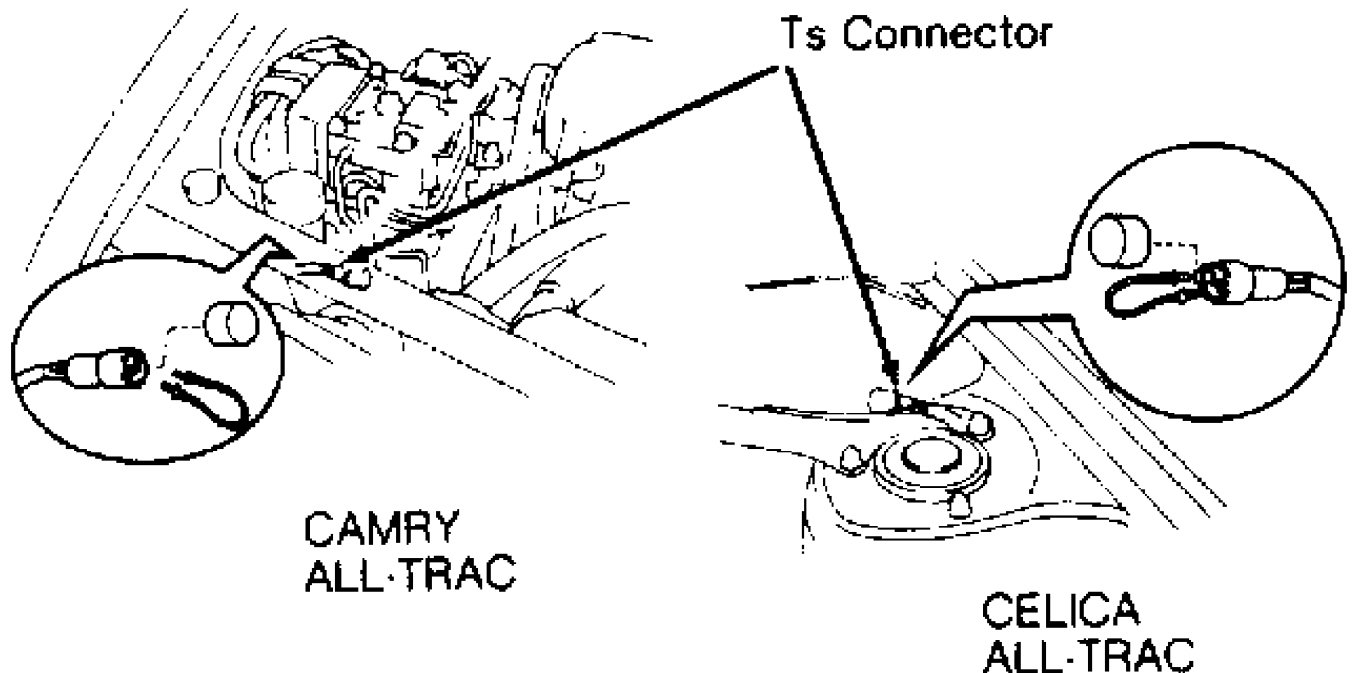

Fig. 8: All-Trac Ts Connector Location
2) If warning light illuminated, turn ignition off. On Camry All-Trac and Celica All-Trac, remove rubber cap from "Ts" connector. See Fig. 8. "Ts" connector is located behind left front shock tower on Celica All-Trac models. Connect a jumper wire between terminals of "Ts" connector.
2) Remove rubber cap from "Ts" connector. Connect a jumper wire between Ts connector terminals. See Fig. 8. "Ts" connector is located behind left front shock tower on Celica All-Trac models. Engage parking brake, depress brake pedal and start engine. Check that "ANTILOCK" light blinks about once every second.